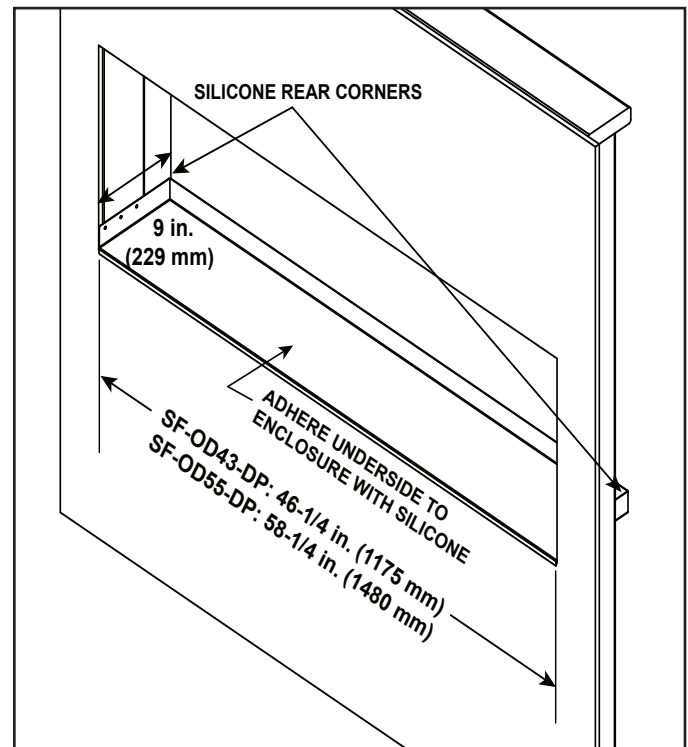

Figure 1 Attach Drain Pan to Appliance
2. Silicone rear corners of drain pan, apply silicone to the underside of the drain pan to adhere it to the bottom of the rough appliance opening. See Figure 1.